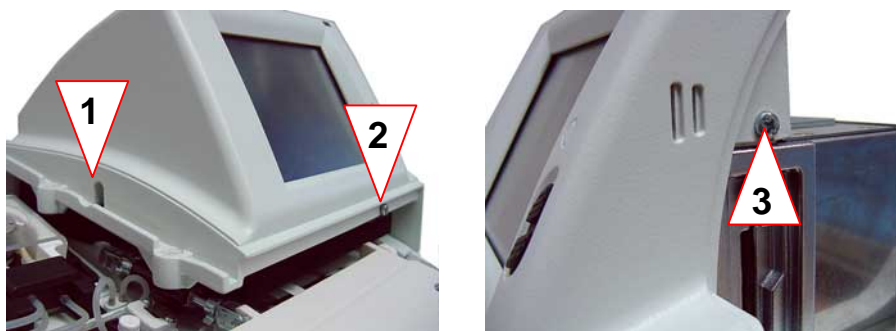

Fig. 3-41 Screen cover mounting screws
5. Dismount the screen cover by opening the mounting screws (see Fig. 3-41, 1 to 3).